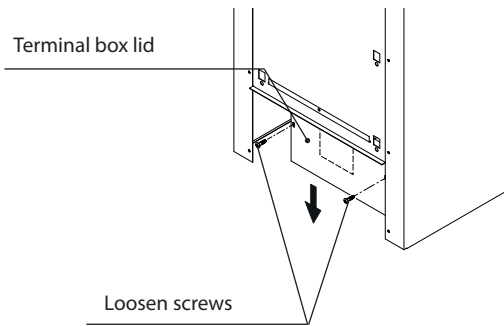

Fig. 6
- Open the terminal box by undoing 2 screws as shown in Fig. 6 and pulling the cover panel downwards.